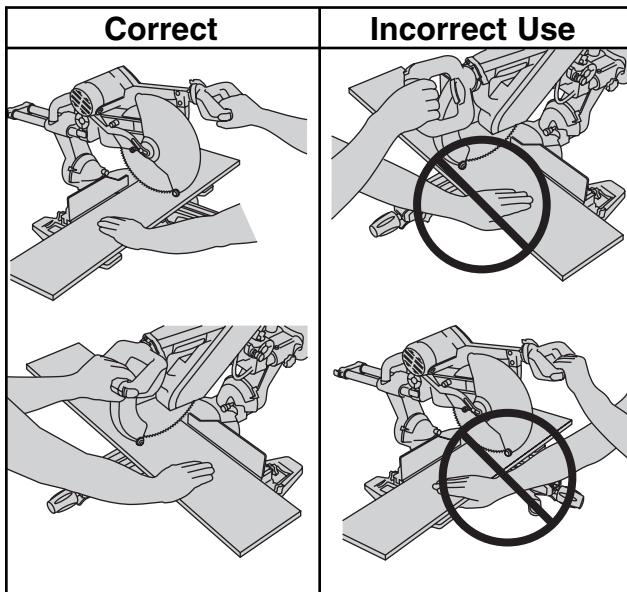

Figure 1. Hand Positions
**! WARNING** Position your body and hands properly to make cutting easier and safer. Observe the following instructions (Figure 1).